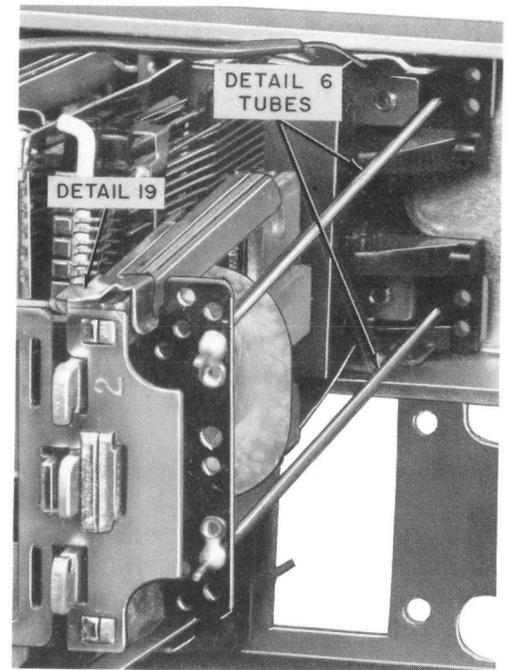

Fig. 23—Detail 6 Tubes on Terminal Rods
- 3.59** Apply detail 19 (Fig. 23) clip on the front tip of the new coil, core, and armature assembly. This clip will hold both the armature core and coil together until all parts fit into terminal bracket.
prevent shorting of the coil terminals. (See Fig. 23.)
3.82 Apply detail 19 (Fig. 23) clip on the front tip of the new coil, core, and armature assembly. This clip will hold the armature core and coil together until all parts will fit into terminal bracket.
- 3.104** Apply detail 19 (Fig. 23) clip on the front of the new coil, core, and armature assembly. This clip will hold both the armature and coil together until all parts will fit into the terminal bracket.